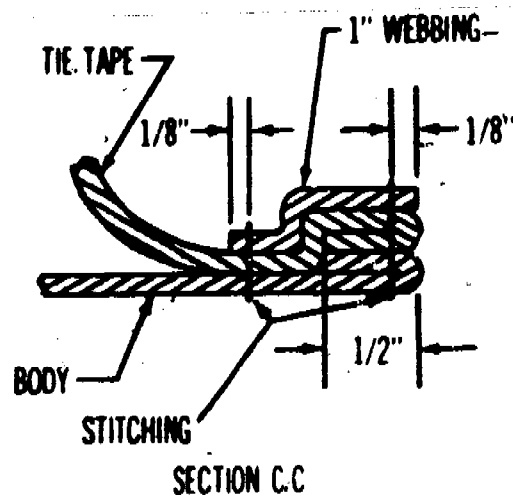

Figure 12-2. Tent liner modified with webbing and tie tapes in place.
a. Modifying the tent and installing the modified stovepipe opening. Determine the center of the new stovepipe opening by measuring about 25 1/2 inches from the eave line and about 17 1/2 inches from the ridge line (fig. 12-1). Draw two intersecting lines from these two measurements. The point of intersection is the center for the opening. Cut the stitching, and remove the old-type stovepipe opening from the tent. Increase the size of the existing round stovepipe-opening hole in the tent to a 15 inch-square opening, cut the tent an additional one-half inch at the corners, and fold back the canvas one-half inch, leaving a 16-inch hole. Place the modified stovepipe opening on the inside of the tent, center it around the hole, and stitch 1-inch webbing folded in half around the perimeter of the stovepipe opening with a double row of stitches, locked at one end. Cut the webbing at the corners and at the centers, and insert eight tie tapes, as shown in figure 12-2. Restitch the webbing over the tie tapes, and secure this stitching with a 1 1/2-inch tack stitch.
b. Modifying the tent liner. Increase the opening in the tent liner to a 15-inch square opening and cut the corners one-half inch, turning the edges toward the outside (fig. 12-2). Position eight tie tapes on the outside